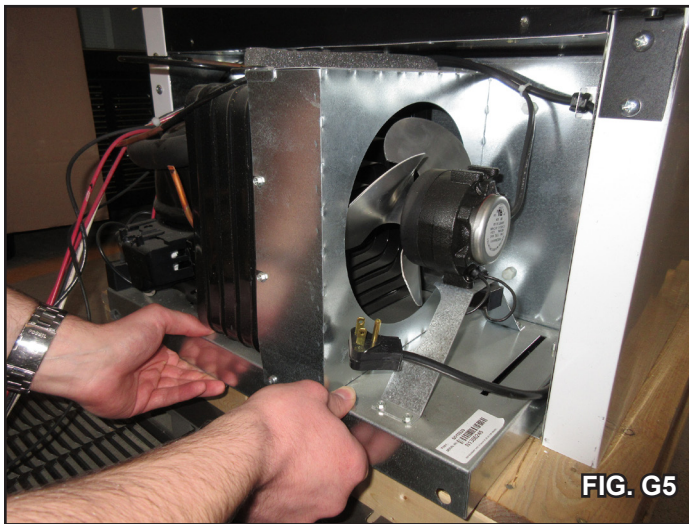

FIG. G5
4. Grasp mid-platform of the Cassette® ensuring plug is clear, and gently slide out (Fig G5).